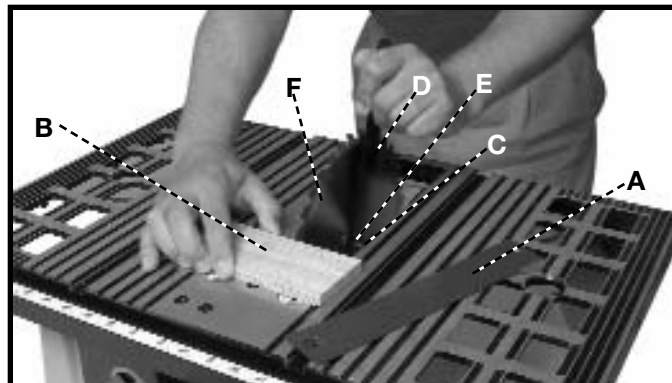

Fig. 38
2. Remove table insert (A) Fig. 38, and raise saw blade (F) to its maximum height.
3. To remove blade, place the wrench (D) on the flats of the arbor nut (C) to keep the arbor from turning. Place a piece of wood (B) flat on the table against the blade so that a tooth of the blade can "grab" the wood to keep the blade from turning. Use wrench to turn the arbor nut toward the front of the saw. Remove arbor nut, blade flange (E), and saw blade.
4. Assemble the new blade, making certain the teeth point down at the front of the saw table, and assemble outside blade flange and arbor nut. Using the piece of wood (B) to keep the blade from turning, tighten arbor nut by turning wrench (D) toward the rear of the saw.